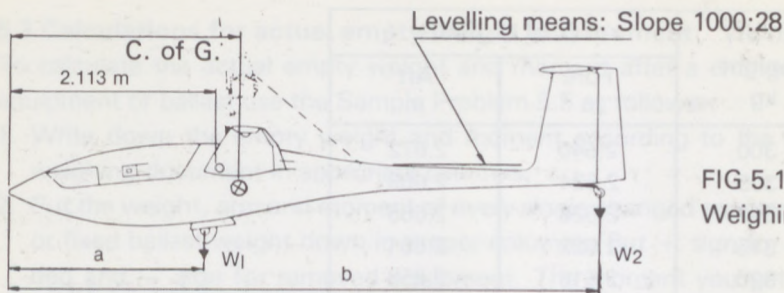

FIG 5.1:
- Level the sailplane (see figure 5.1). Levelling means: Slope of top surface of rear fuselage between stations 4.5 m and 5.5 m 1000 to 28 tail down.